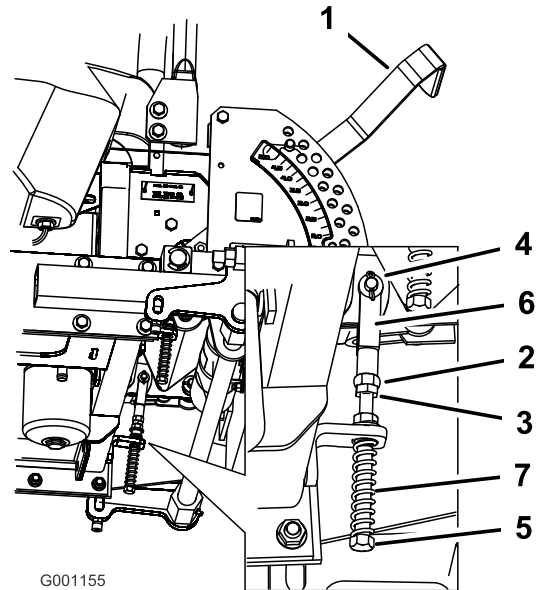

Figure 77
10. Tighten the nut and jam nut (Figure 77).
8. If adjustment is needed, loosen the nut and jam nut against the yoke (Figure 77).
9. Apply slight rearward pressure on the motion control lever, turn the head of the adjustment bolt in the appropriate direction until the control lever is centered in the neutral-lock position (Figure 77).